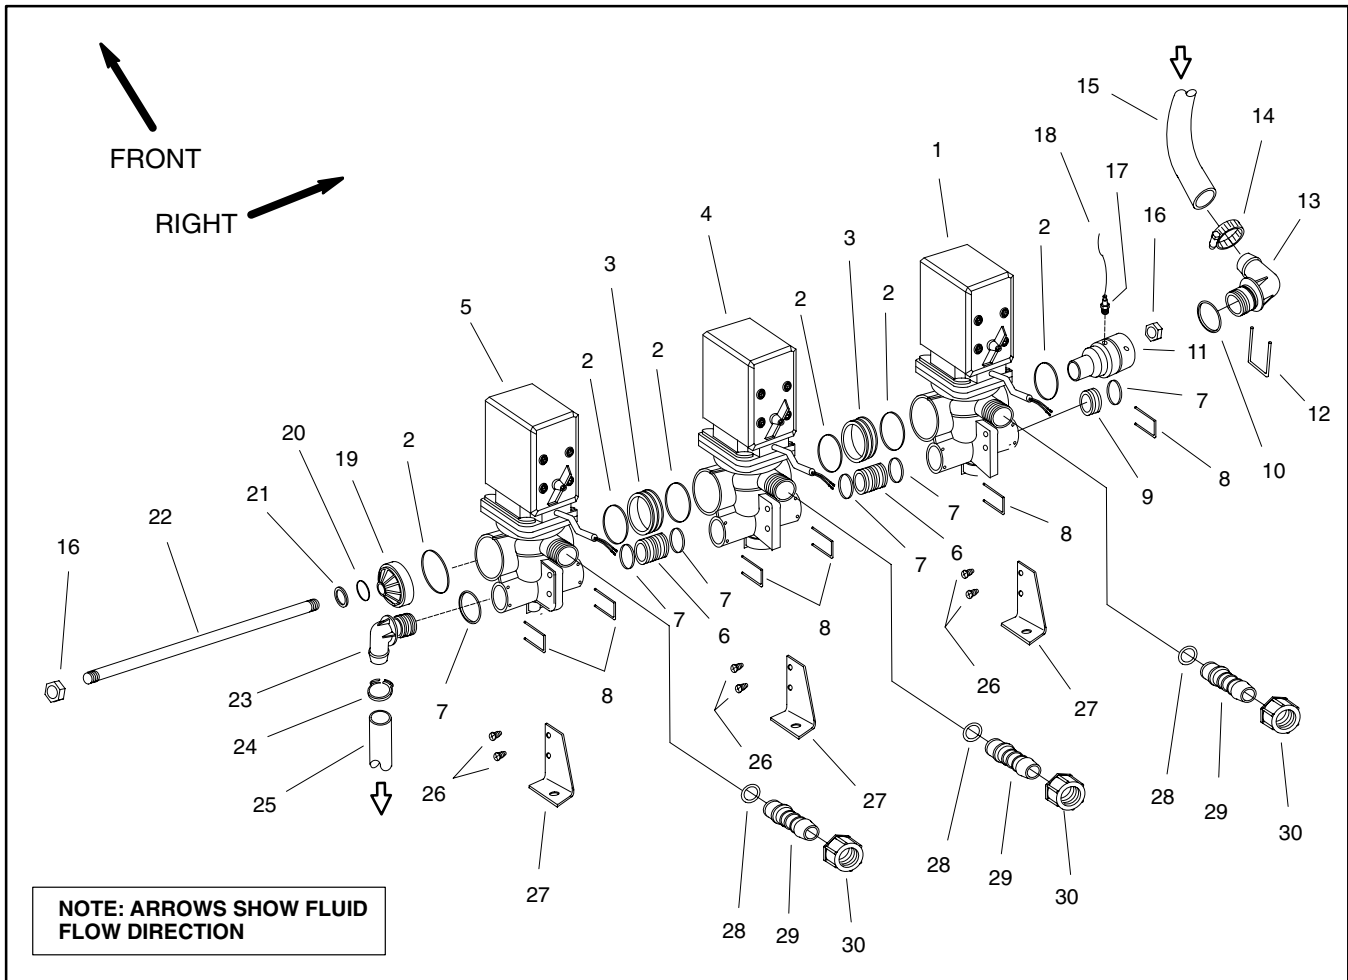

Figure 21
Disassembly (Fig. 21)
1. Separate boom valve motors as needed using Figures 21 and 22 as guides. Discard all removed o-rings and gaskets.
Assembly (Fig. 21)
1. Reassemble boom valve motor assembly using Figures 21 and 22 as guides. Replace all removed o-rings.
2. Before installing rod (Item 22) into assembly, thread nut (item 16) fully onto rod end that has fewer threads. Make sure that o-ring (Item 20) is not damaged during installation over rod.